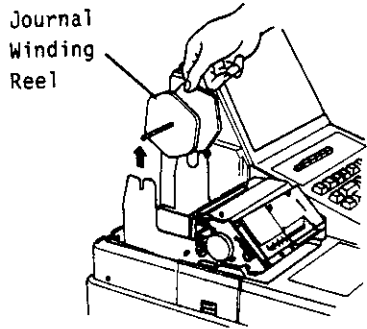

Fig. 1
2. Remove the Paper Cover by pulling it upward, and remove the Journal Winding Reel (Fig. 1).